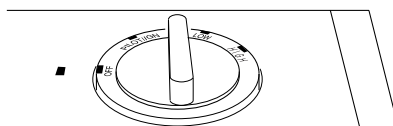

Figure 17 - Control Knob In The OFF Position (FB-10BA Shown)
- Press in and turn control knob clockwise ↻ to the OFF position (see Figure 17).
- Wait five (5) minutes to clear out any gas. Then smell for gas, including near the floor. If you smell gas, **STOP!** Follow "B" in the safety information, column 1. If you don't smell gas, go to the next step.
- Press in control knob and turn counterclockwise ↺ to the PILOT/IGN position. Keep control knob pressed in for five (5) seconds.